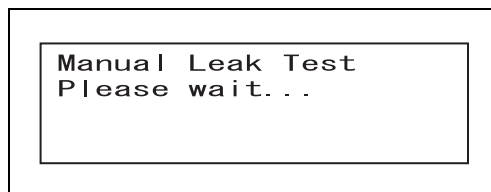

Figure 5.29
- 4 Press the START button, and the indicator shown in Figure 5.29 will be displayed. Do not immerse the endoscope in water while the indicator is being displayed because the endoscope has not been sufficiently pressurized.